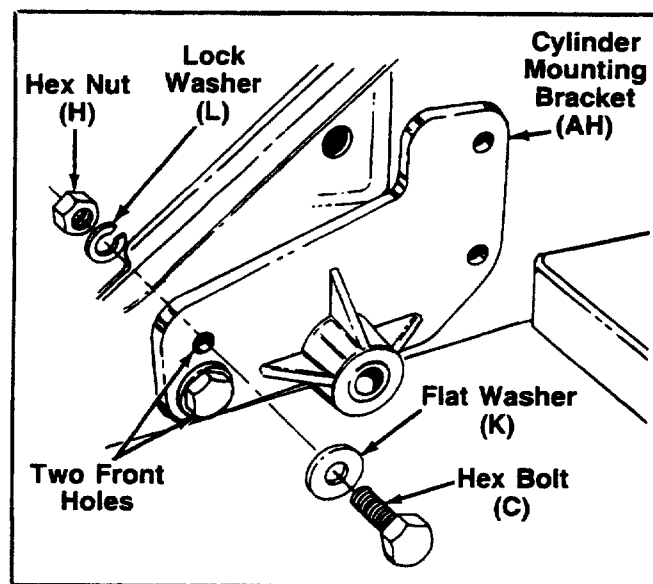

FIGURE 16.
8. Assemble the cylinder mounting bracket (AH) to the left hand side of tractor frame using two front holes, with two hex bolts (C), flat washers (K), lock washers (L) and hex center lock nuts (H) loosely at this time. See figure 16.